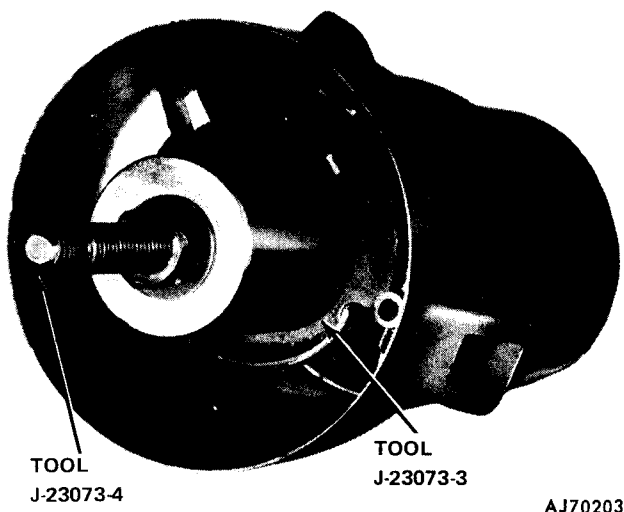
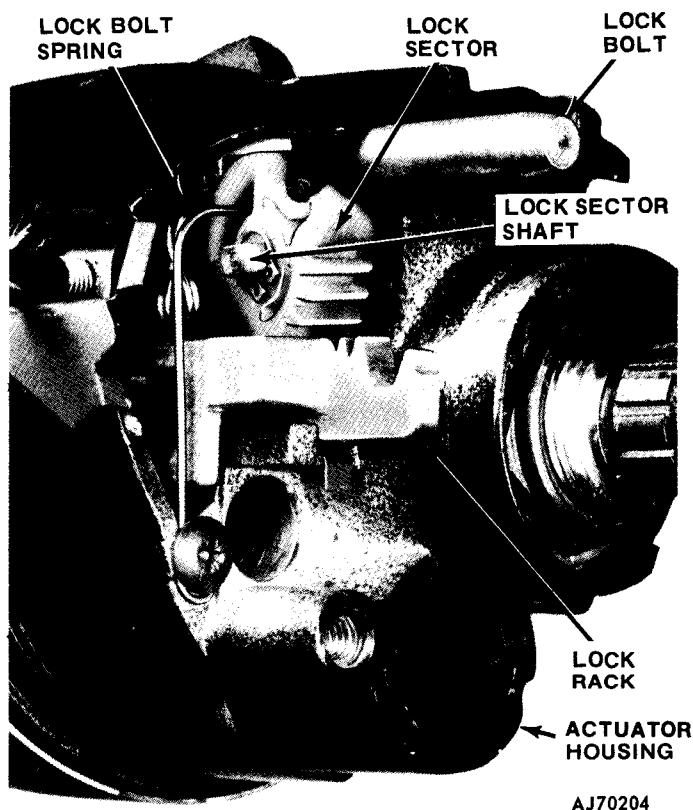
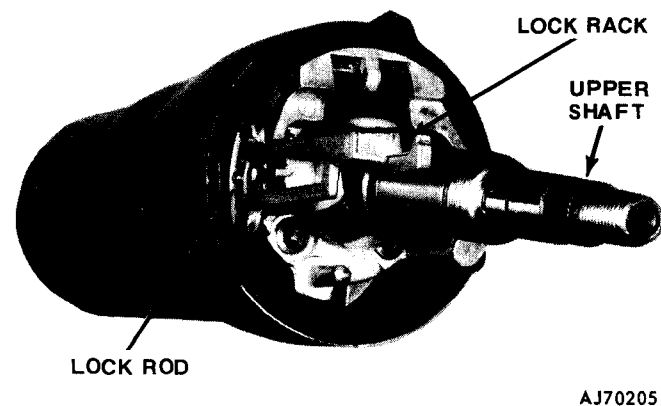

Fig. 11-46 Pulling Shift Tube into Bowl
Fig. 11-48 Position of Lock Sector Tension Spring
Fig. 11-47 Lock Rack and Remote Rod Position
(6) Place Receiver Tool J-23073-3 and -4 over puller stud and tighten puller nut to pull tube into bowl (fig. 11-46).
(7) Install shift tube thrust washer and shift tube retainer snap ring.
(8) Install lower bearing (with metal face toward retainer), retainer, and snap ring.
(9) Install pin and shift gate on upper support and install upper support. Align V-notch in support with notch in column (located at 9 o'clock position).
(10) Install four retaining screws.
(11) Assemble steering shaft and install in column.
(12) Place bearings (14 balls each) in upper housing (if removed).
(13) Install tilt handle.
(14) Insert ignition switch remote rod between shift bowl and mast jacket and into guide channel in left side of upper support.
(15) Place lock rack on remote rod (fig. 11-47).
(16) Guide upper housing over steering shaft and lock rack. Align lock shoes with teeth in upper support.
(17) Align upper housing and upper support pivot pin holes and install pivot pins using fiber mallet or brass drift.
(18) Install lock shoes, lock shoe springs, tilt bumpers, and lockpin in upper housing.
(19) Install lock sector and sector shaft. Large tooth on sector must engage large slot in lock rack. Install sector shaft retaining snap ring.
(20) Hook lock sector tension spring on lockpin, engage sector, and install spring retaining screw (fig. 11-48).